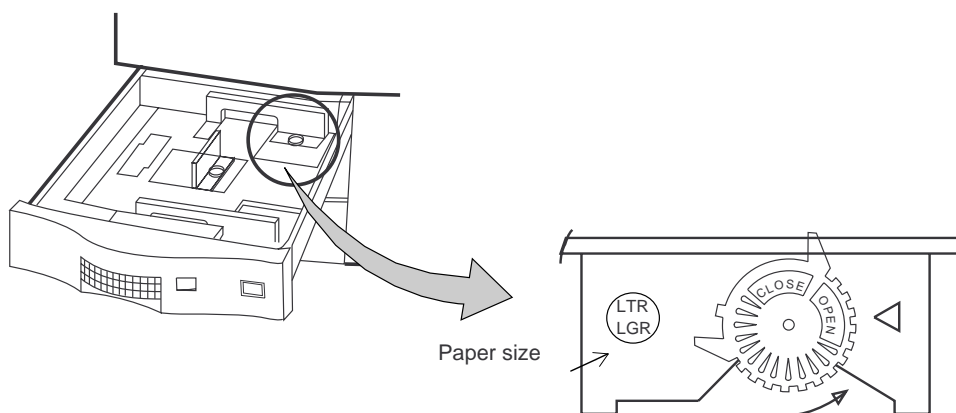

Figure 2-62 Locking Device
2. Turn the blue locking device, for each paper guide, counterclockwise to the OPEN position. See Figure 2-62.
3. Lift paper guides and place in new paper size location. The paper size can be seen in the round circle on the paper guide. See Figure 2-62.